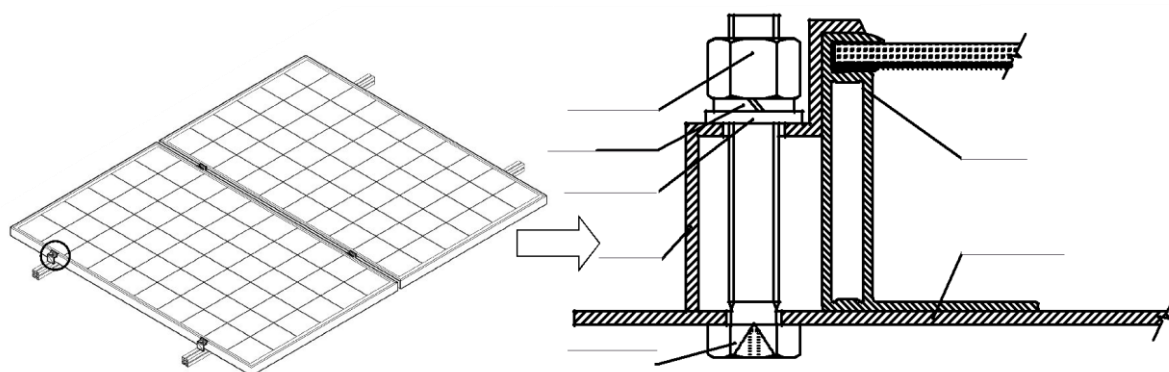

Figure 2
**Camping system** Use suitable clamps to x the Module on the support frame, as shown in Figure 2.